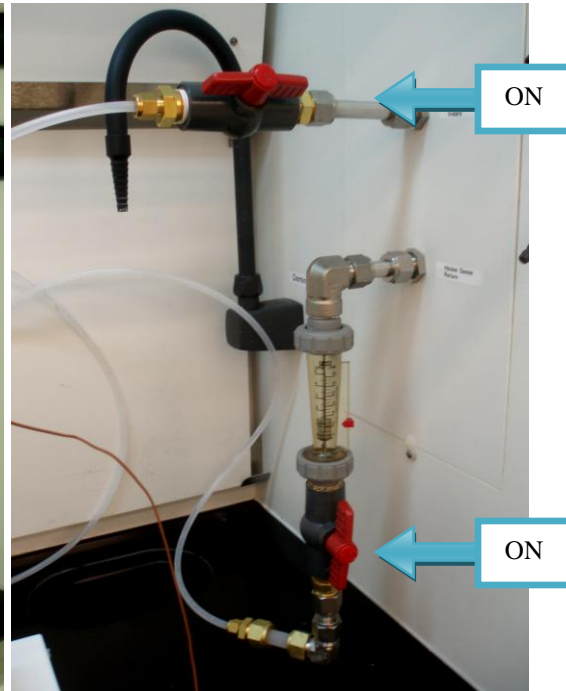

Figure 4 Water flow ON
4. Turn on the return water valve followed by the supply water valve (as shown in Fig. 4). If you have connected the pipes to the quick connects properly, water will flow without any leakage. The bar in the flow meter will rise and show you the flow rate. The flow rate can be read by looking at the widest diameter portion of the bar. Please use a water flow rate between 1 – 3 litres per minute.